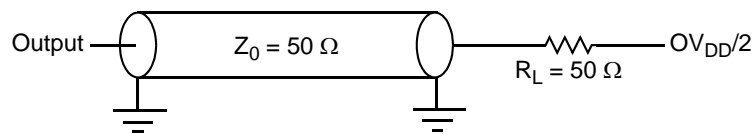

Figure 29. AC Test Load for the JTAG Interface
1. All outputs are measured from the midpoint voltage of the falling/rising edge of t_{TCLK} to the midpoint of the signal in question. The output timings are measured at the pins. All output timings assume a purely resistive 50- Ω load (see Figure 29). Time-of-flight delays must be added for trace lengths, vias, and connectors in the system.
2. The symbols used for timing specifications follow the pattern of $t_{(first\ two\ letters\ of\ functional\ block)(signal)(state)(reference)(state)}$ for inputs and $t_{(first\ two\ letters\ of\ functional\ block)(reference)(state)(signal)(state)}$ for outputs. For example, t_{JTDVXH} symbolizes JTAG device timing (JT) with respect to the time data input signals (D) reaching the valid state (V) relative to the t_{JTG} clock reference (K) going to the high (H) state or setup time. Also, t_{JTDVXH} symbolizes JTAG timing (JT) with respect to the time data input signals (D) went invalid (X) relative to the t_{JTG} clock reference (K) going to the high (H) state. Note that, in general, the clock reference symbol representation is based on three letters representing the clock of a particular functional. For rise and fall times, the latter convention is used with the appropriate letter: R (rise) or F (fall).
Figure 29 provides the AC test load for TDO and the boundary-scan outputs.